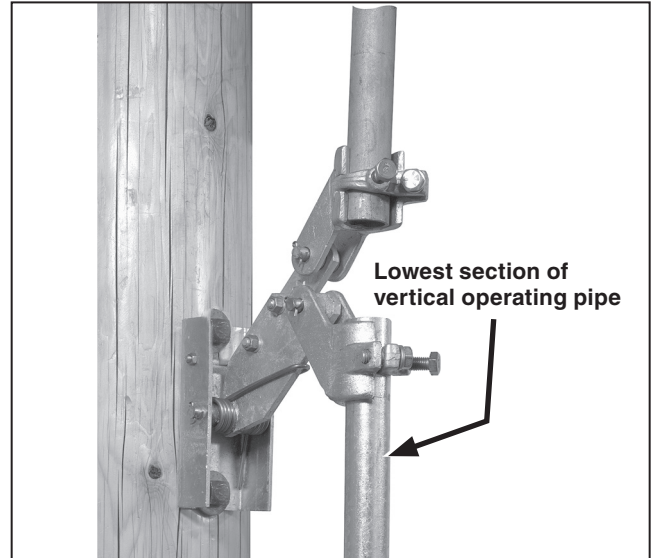

Figure 18. Installing the lowest operating pipe section into the rod guide.
STEP 16. Insert the upper end of this pipe section in the lowest rod guide or—if only one vertical operating-pipe section is used—the bell-crank coupling and, while holding the operating handle at a point approximately 20 degrees from the **Closed** position, torque the rod guide (or bell-crank) coupling clamp bolt. See Figure 18.